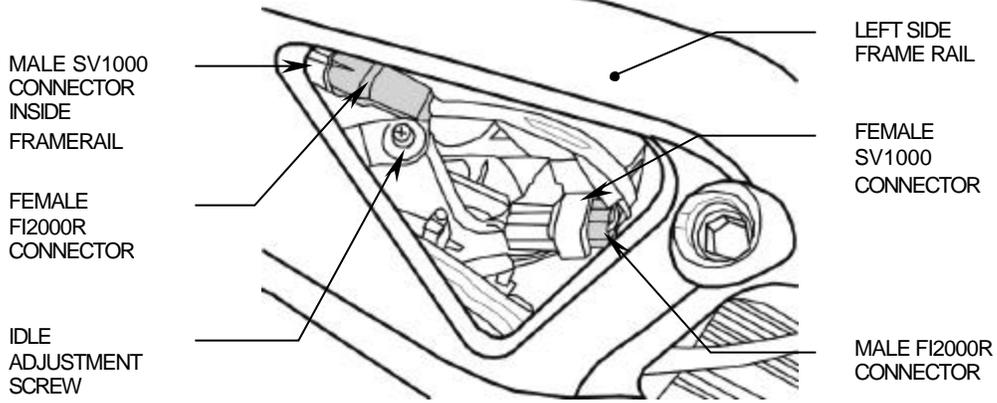

FIGURE 1
3. Remove (2) 4 mm allen bolts from the front of the fuel tank and rotate the tank rearwards and prop tank up with a tank prop rod or any other item available to secure tank in this position.
4. On the left side of the motorcycle directly above the idle adjustment screw locate a 6-pin connector and disconnect it, see Figure 1. The female should go towards the rear and the male portion of the connector will remain on the inside of the extruded frame rail.